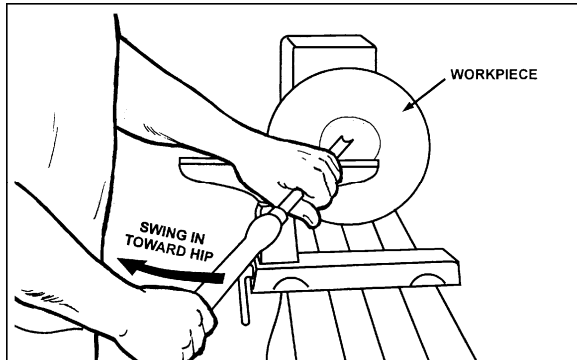

Figure 31
5. Place 1/2" bowl gouge on tool support at center of the workpiece with the flute facing top of bowl. The tool handle should be level and pointed toward the four o'clock position, as shown in Figure 31.
6. Use the left hand to control cutting edge of gouge, while right hand swings tool handle toward your body (Figure 31). The flute should start out facing top of workpiece, and rotate upward as it moves deeper into the bowl to maintain a clean even curve. As the tool goes deeper into the bowl, progressively work out toward the rim. It may be necessary to turn the tool support into the piece as you get deeper into the bowl.